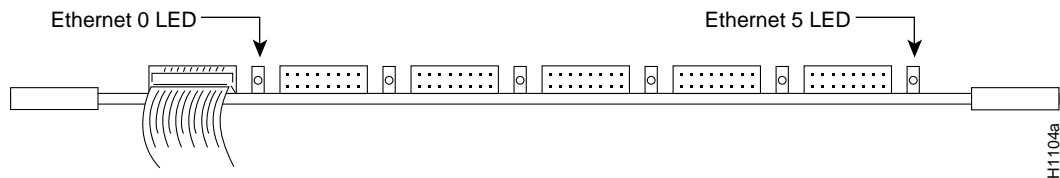

Figure 15 CSC-MEC Card—Front-Edge View
On the CSC-MEC, an LED is located to the right of each port. (See Figure 15.) After the system has booted, the LED for each connected port should be on.
Step 6 Check the LEDs on the CSC-MEC card. The ports activate from left to right when viewing the card in the card cage. The LEDs are on to indicate the interface is functional, *even when the interface is not attached to a transceiver*. The LED to the right of each connected port should be on. (See Figure 15.) If any LEDs for a connected port are not on, do the following: